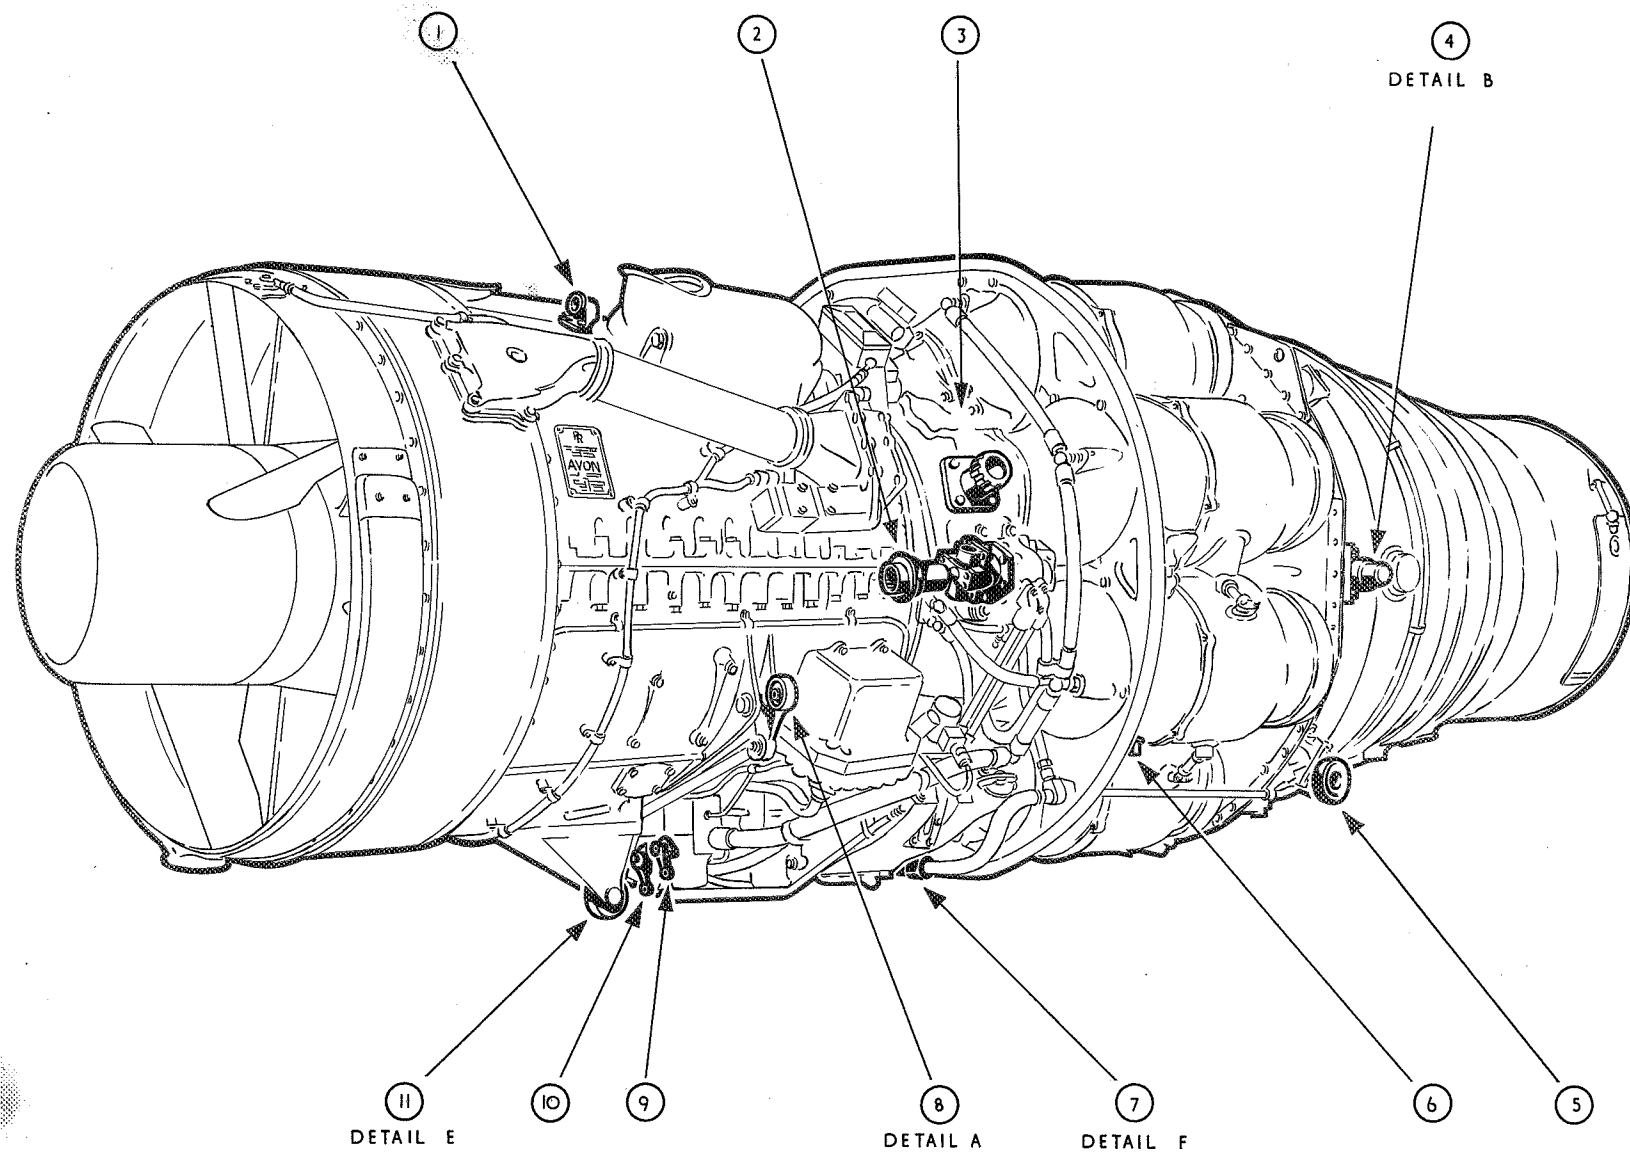
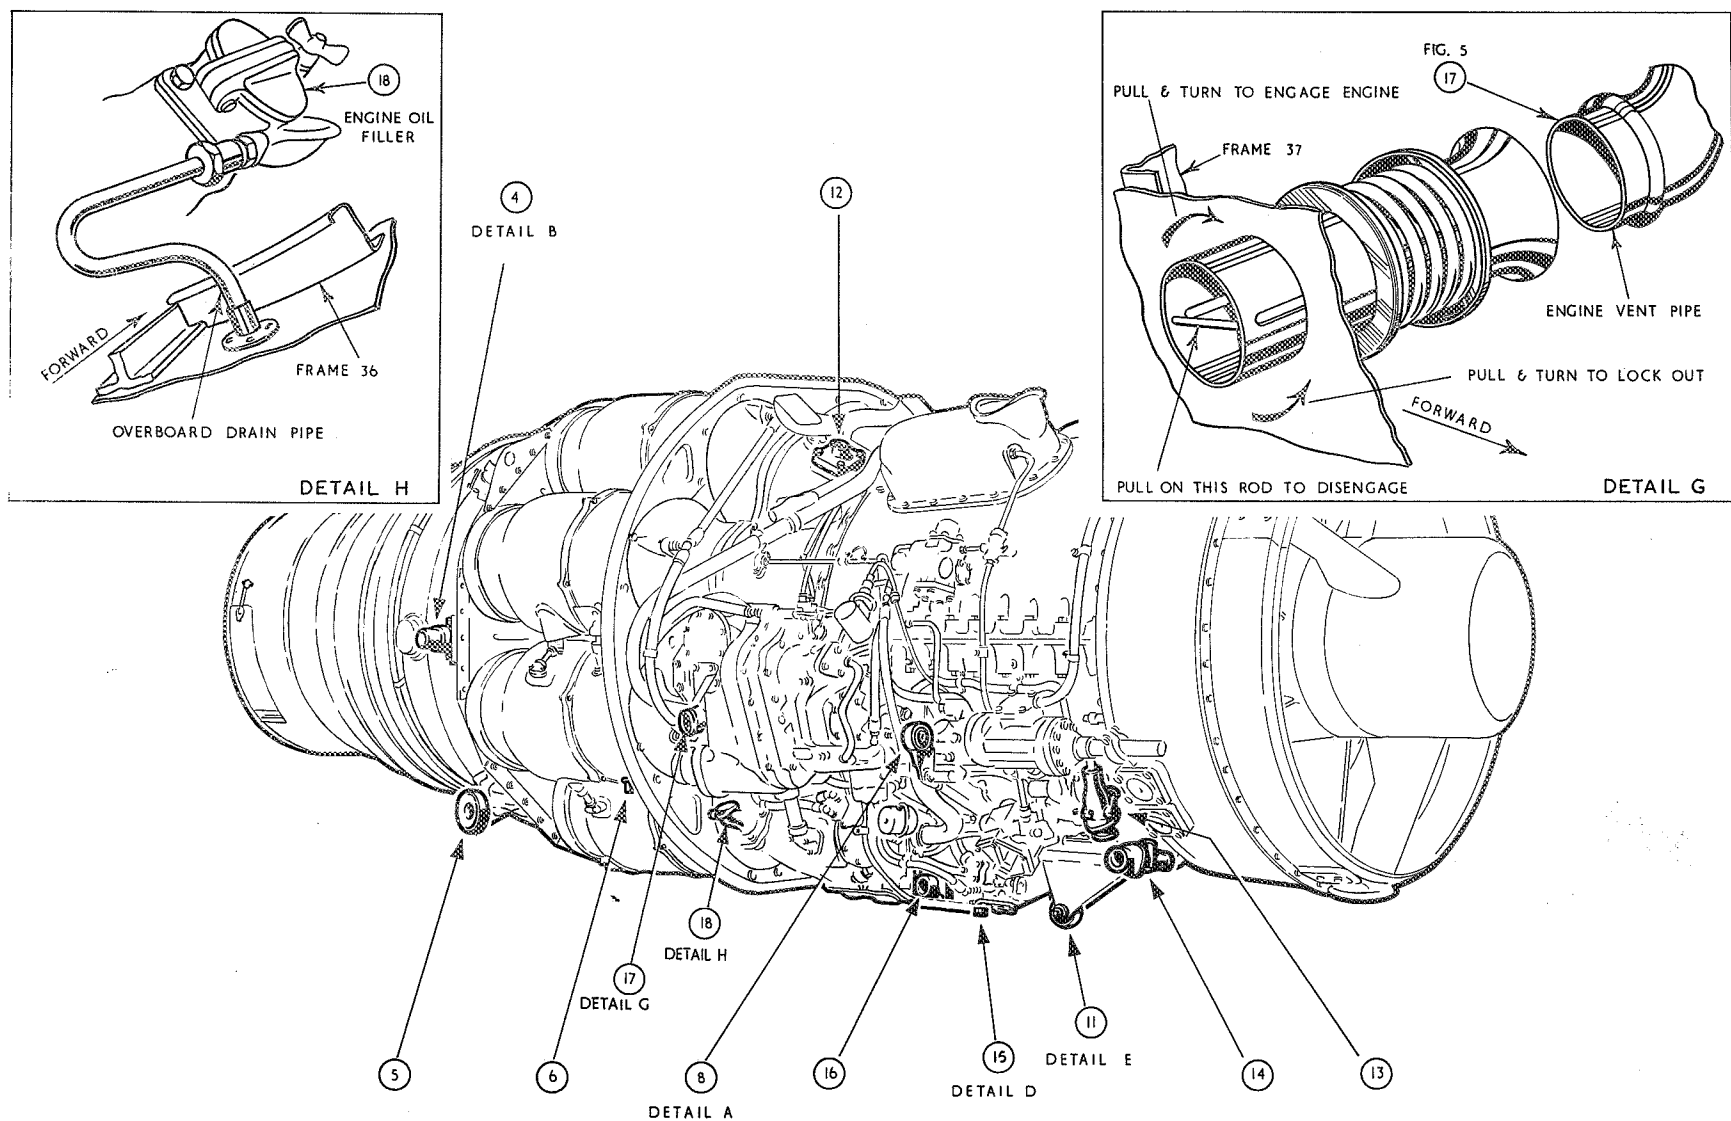

Fig.4. Engine removal (1)
Fig.5 Engine removal (2)
Engine removal (fig. 4, 5 and 6)
- (5) Remove the wheelcase breather (item 17, fig. 5).
- (6) The following disconnections are given in sequence under their appropriate access door or panel:—
- (b) *Gearbox access door.* Disconnect and stow the cable assemblies C.3 and C.6 (fig. 5 items 13 and 14).
- (c) *Engine access door.* Disconnect and remove the drain pipe from the oil filler (item 18, fig. 5). Disconnect the overboard drain pipe (detail D, fig. 5 and 6) from the engine access door landing aft of frame 34 by removing the anchorage clip from the drain connection and from the spill connection (15) at the bottom of the fuel units and fuel pressure warning light switch. Remove the drain pipe from the aircraft. Disconnect the two connecting rods from the high pressure cock and throttle levers (item 9 and 10, fig. 4) and from their respective Teleflex wrapped box units on frame 34. Disconnect the fire extinguisher hose (detail F, fig. 4 and 6) from the rigid metal pipe (item 7, fig. 4) on the engine. Tuck back the hose behind frame 37. Unscrew the six bolts from the fire sealing plate (detail F, fig. 4 and 6) on the forward face of frame 37. Remove the plate from the aircraft. Unscrew the four nuts and disconnect the fuel inlet
pipe from the fuel units (item 16, fig. 5) and from the connection behind the nearest flexible coupling. Remove the pipe and coupling from the aircraft. Place the removable rail (detail E, fig. 6) between frames 34 and 37 and lock in the bracket on the forward face frame 37 by inserting the pip pin. By screwing up the adjustment bolt through the bottom of frame 34 bring the rail into contact with the engine front roller (11) (detail E, fig. 6).
- (d) *Engine front mounting access panels.* Disconnect the engine front mountings (detail A, fig. 4 and 6) and pull the fork ends flush to frame 34 in order to clear the engine front mounting eyes (item 8, fig. 4) and avoid fouling the engine on removal. Prise back the serrated, spring loaded locking ring and unscrew the shaft retaining nut to break down the gearbox drive shaft (item 2, fig. 4).
Disconnect the high energy igniter plugs (item 6, fig. 4 and 5) from the combustion chambers numbers 3 and 6.
- (f) *Cold air unit access panels.* Disconnect the flexible metallic fuel-tank pressurizing pipe from the engine (*item 3, fig. 4*) and from the non-return valve aft of frame 36. Remove the pipe from the aircraft. Disconnect the flexible air conditioning pipe from the engine (*item 12, fig. 5*) and from the connection behind the flexible coupling. Remove the pipe and coupling from the aircraft.
- (g) *Engine bleed valve duct panel.* Pre-mod. H.1009 – PR Mk.11 aircraft only. Disconnect the flexible metal-braided gun heating pipe from the elbow on the engine (*item 1, fig. 4*) and tie back to the aircraft structure.
- (7) Having disconnected the above items, align the engine removal trolley with the engine rail lug on the rear face of frame 40A. Screw down the built in jacks at each corner of the trolley and raise it to the required height. Bring the engine rear roller channels of the trolley into alignment with the engine rear rollers (*item 5, fig. 4 and 5*) by turning the lateral adjustment handles on the cross members above the trolley axles. Lock the trolley to frame 40A by inserting the pip pin in the con-
necting link of the trolley. Dismantle the engine rear mountings (*detail B, fig. 6*) by removing the split pins, slotted nuts and washers from the 'U' bolts. Withdraw the caps off the 'U' bolts. Pull the engine rearward about six inches in order to free the special bolts securing the rear mounting blocks (*item 4, fig. 4 and 5*). Break the wire locking and unscrew the three special bolts securing the engine rear mounting blocks to frame 40A. Remove the blocks from the aircraft. Transfer the engine from the aircraft to the trolley and secure by replacing the retaining bolts in front of the engine rear rollers at the ends of the roller channels. If the engine is not to be re-installed remove the pin and bearing from the port rear engine mounting and the bearing from the starboard rear engine mounting and retain with the mounting blocks. Withdraw the pip pin to disengage the trolley from frame 40A. Lower the trolley on to its wheels and tow away.